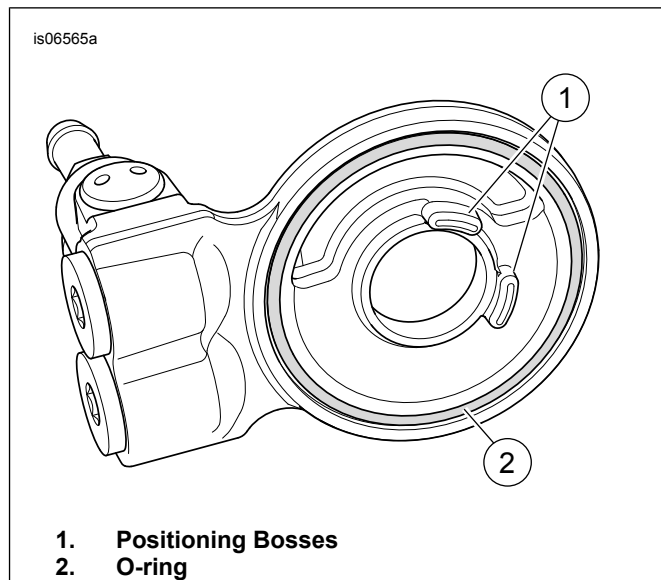

Figure 3. Oil Cooler Adapter
3. See Figure 3. Match positioning bosses (1) on the oil cooler adapter to the oil filter adapter.